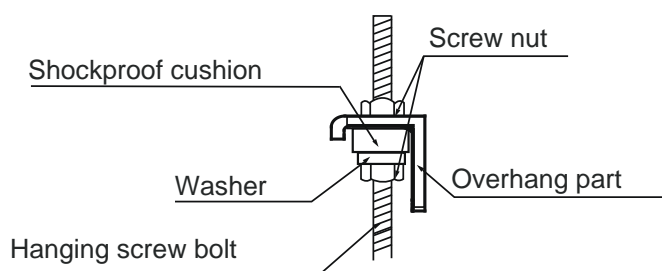

Figure 2.
9. Mount the indoor unit onto the hanging screw bolts with a block. Position the indoor unit flat using a level indicator to prevent leaks (Figure 2).